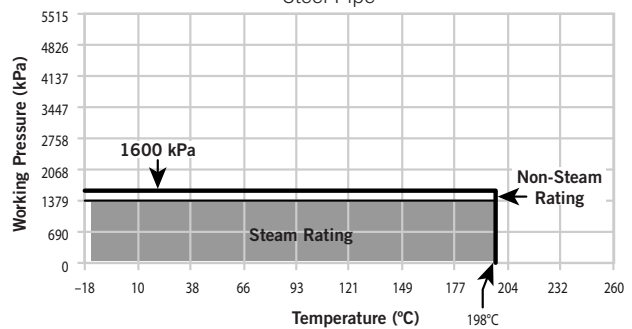

Figure 2: EN 10216-1 P235TR1 Carbon Steel Pipe
- For nonsteam applications using thin wall carbon steel pipe per EN 10216-1 P235TR1, joints utilizing the Style 870 Coupling provide working pressures ranging from full vacuum (29.9 inches Hg/760 mm Hg) up to 232 psi/1600 kPa/16 bar, depending on maximum system temperature. Please refer to Figure 2 for specific pressure/temperature ratings.